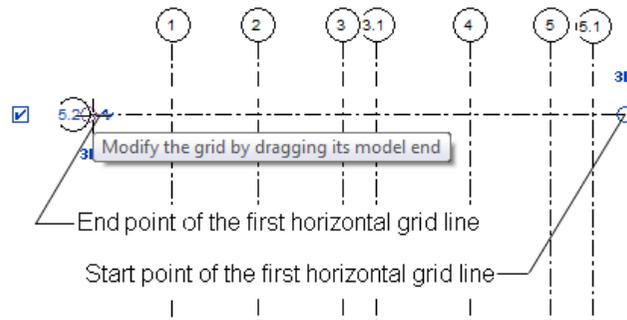

Figure 3-52 The location of the start point and endpoint of the first horizontal grid line
19. Move the cursor horizontally toward the left until it has crossed the vertical grid line marked 1. Click in the drawing area to create the first horizontal grid line, as shown in Figure 3-52.